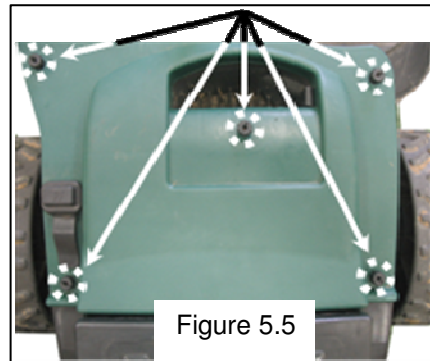

Figure 5.5
- Unscrew the five nuts manually at the rear side of the Chassis cover (figure 5.5). If you find it difficult use a wide flat screwdriver;